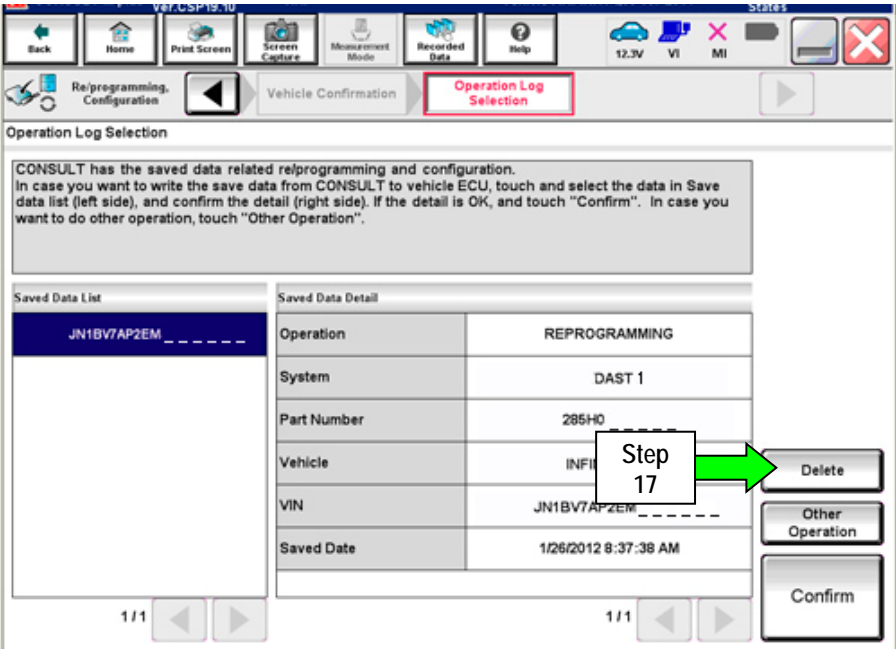

Figure 12
17. If the screen in Figure 12 appears, first select Delete then Confirm, and then Other Operation.